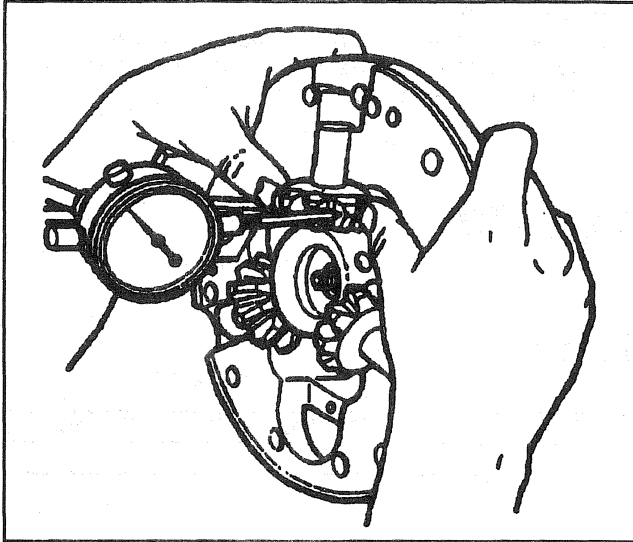

Figure 15—Measuring Backlash
6. Mount a dial indicator on the case half face using a magnetic base (Figure 15).
8. Mount a dial indicator on the case half face using a magnetic base (Figure 15).